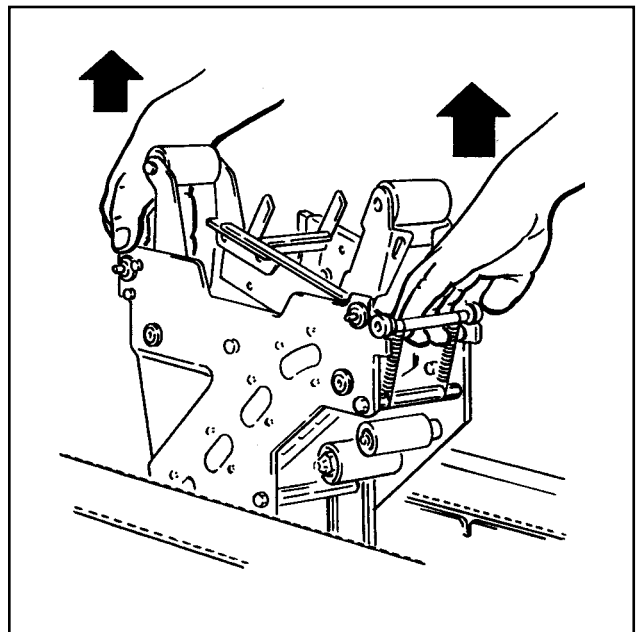

Figure 6-3 – Remove Lower Taping Head
5. Lift the lower taping head, shown in Figure 6-3 and 6-1C, straight up to remove it from the case sealer bed.